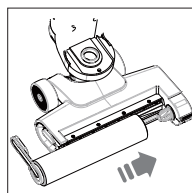

Fig. 15 – Inserting the microfibre roller
- ▶ Place the microfibre roller on the roller holder with the right-hand side first. Turn the locking tab so that you can engage the locking tab in the recess in the cleaning foot (see Fig. 15).